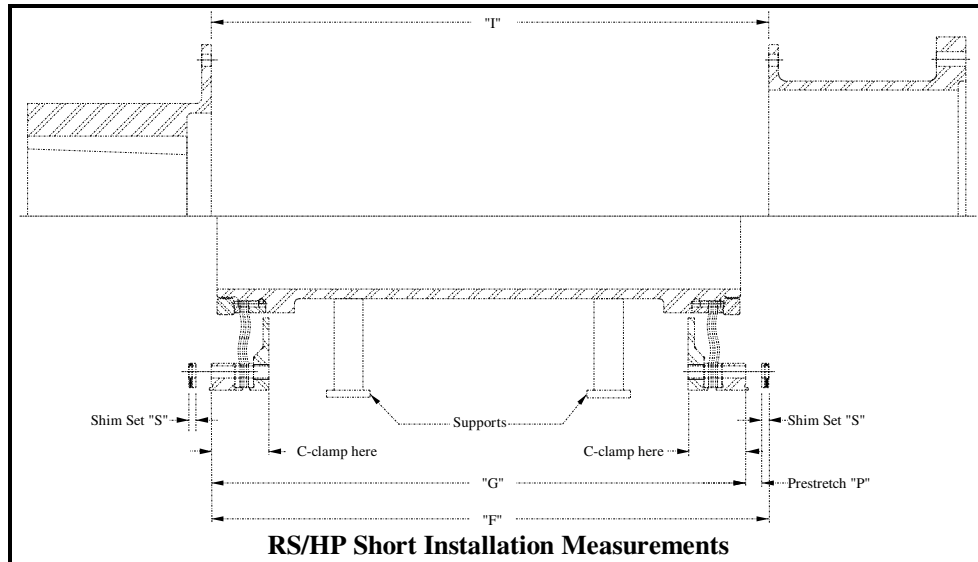

Figure 4-9
- 4.4.3.1 Measure and record, on the worksheet provided in Paragraph 4.4.5, the installation length "T" (distance between mounted flange faces) at four (4) places approximately 90° apart (see Figure 4-9).
- 4.4.3.2 Assemble the spacer rings, as shown on the Ameridrives Sales Drawing, onto both ends of the diaphragm pack sub-assembly taking care to re-align the matchmarks and end identification letters. Install a minimum of four (4) bolts approximately 90° apart through each spacer ring and tighten the bolts evenly in a criss-cross pattern to seat the pilots. On some size couplings the grip length of the bolts is too long to allow seating of the pilots in this manner. When this condition exists, a spacer plate, washers, shorter bolts, or C-clamps (not supplied) may be required to seat the pilots. Support as shown in Figure 4-9).
- 4.4.3.3 Measure and record, on the worksheet in Paragraph 4.4.5, the coupling free length "G" (distance between spacer ring outer flange faces) at four (4) places approximately 90° apart. It is recommended that C-clamps be used to compress the diaphragm pack at the location the measurements are being taken (see Figure 4-9).